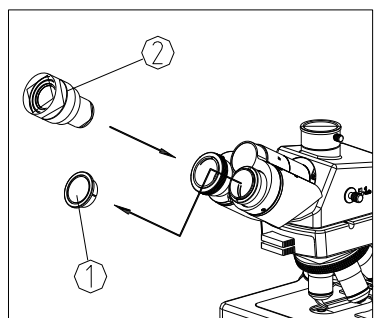

Fig. 9
(1) Take down the cover of eyepiece tube①. (See Fig.9)
(2) Insert the eyepiece② into the eyepiece tube, until touch the bottom.